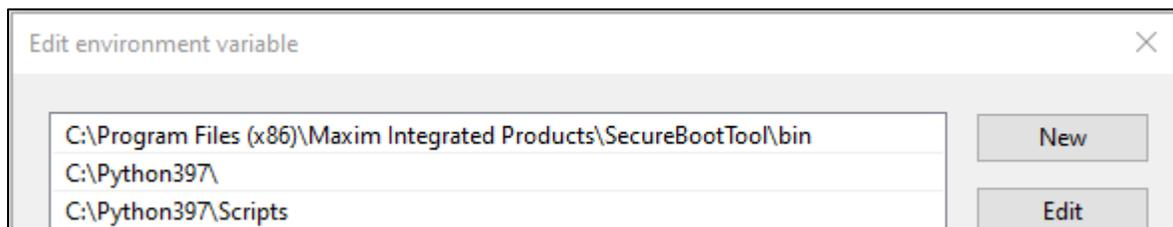

Figure 11. SBT binaries path.
- Adds SBT binaries location in PATH variable (as shown in **Figure 11**).